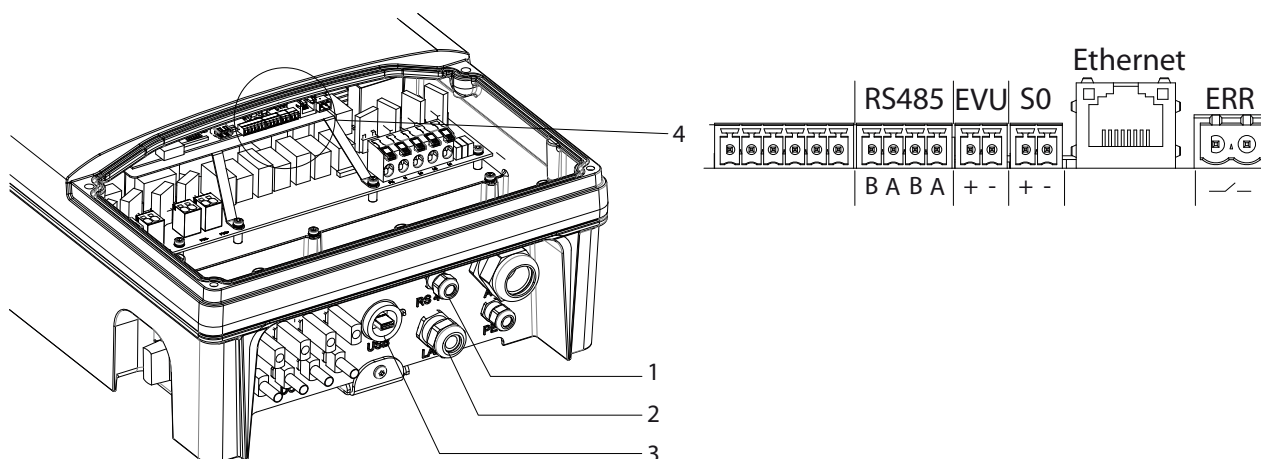

Figure 13: Connection area: Connection and assignment of the interfaces
All interfaces are located on the connection circuit board behind the cover for the connection area. Use the cable fittings and plug connections provided (see Figure 13 on page 26).
- LI2YCYv (TP) black for laying cable outside and in the ground 2 x 2 x 0.5
- LI2YCY (TP) grey for dry and moist indoor spaces 2 x 2 x 0.5
1. Unscrew the cable fitting (see Figure 13 on page 26).
3. Connect the connection cables to the corresponding connection terminals (see Figure 13 on page 26).
1. Loosen and remove the cover of the cable fitting (see Figure 13 on page 26).
5. Connect the connection cable to the Ethernet interface (see Figure 13 on page 26).